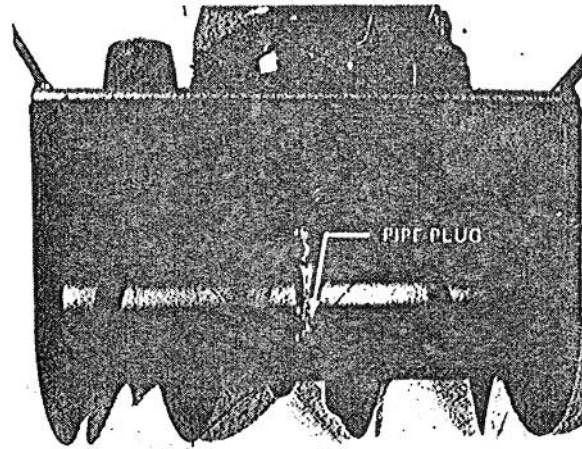

Figure 14
2. Remove pipe plug from gear box (Fig. 14); then check level of oil in gear box. Oil must be at point of overflowing in filler opening.
4. Install pipe plug in gear box (Fig. 14).